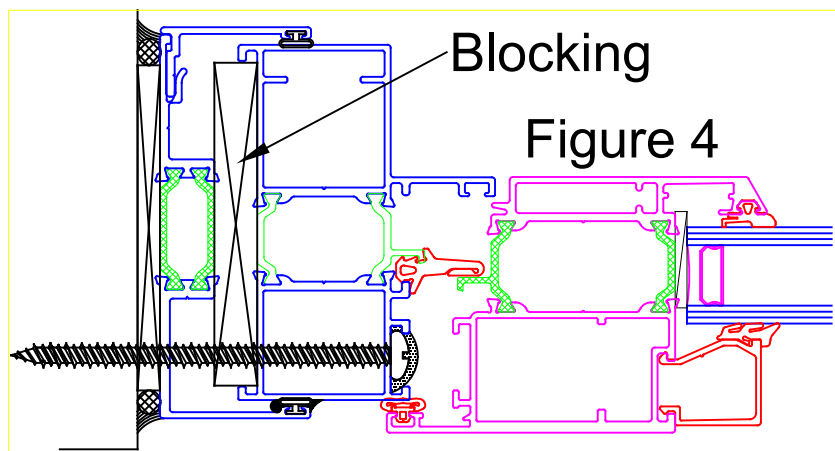

Figure 4
- F. Apply shims and/or blocking at each hinge and fastener location (See figures 4 and 5). The door must be level, plum and square in accordance with Table 1 shown on the previous page. If the accessible sill is being used, the squareness tolerance of the door shall be reduced to 1/16" maximum, and the straightness of the sill will be reduced to 1/32" maximum at any point.